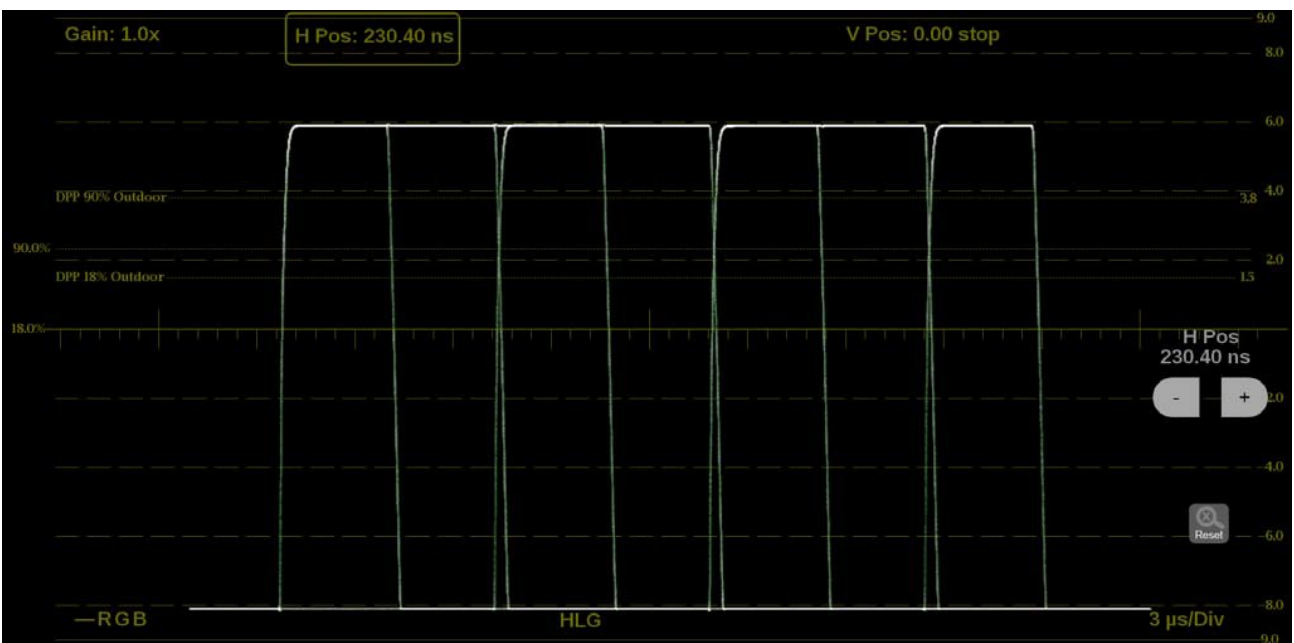

Figure 201: Stop Display on-screen tools – horizontal position
1. Select the **H Pos** button to allow adjustment of the horizontal trace. (See Figure 201.)